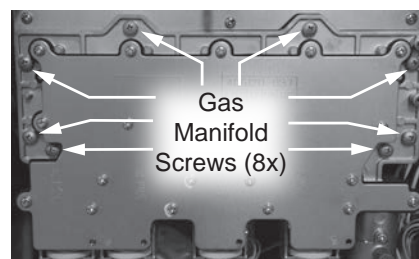

Figure 115 - Removing gas manifold screws
- 14 Locate the eight screws securing the gas manifold to the burner assembly. Remove screws and place aside in a safe place for reinstallation. See Figure 115.